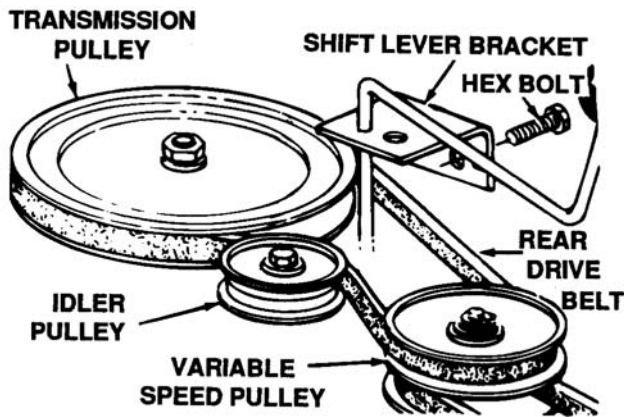

Figure 7-26. Location of Shift Lever
- c. Push the idler pulley toward the right side of the unit. Lift the belt over the idler pulley. See Figure 7-26. See Page 7-16.
- e. Remove the two bolts which hold the shift lever bracket to the frame on the left side of the unit. Swing the bracket toward the right so the belt can be removed from the transmission pulley. See Figure 7-26. See Page 7-16.